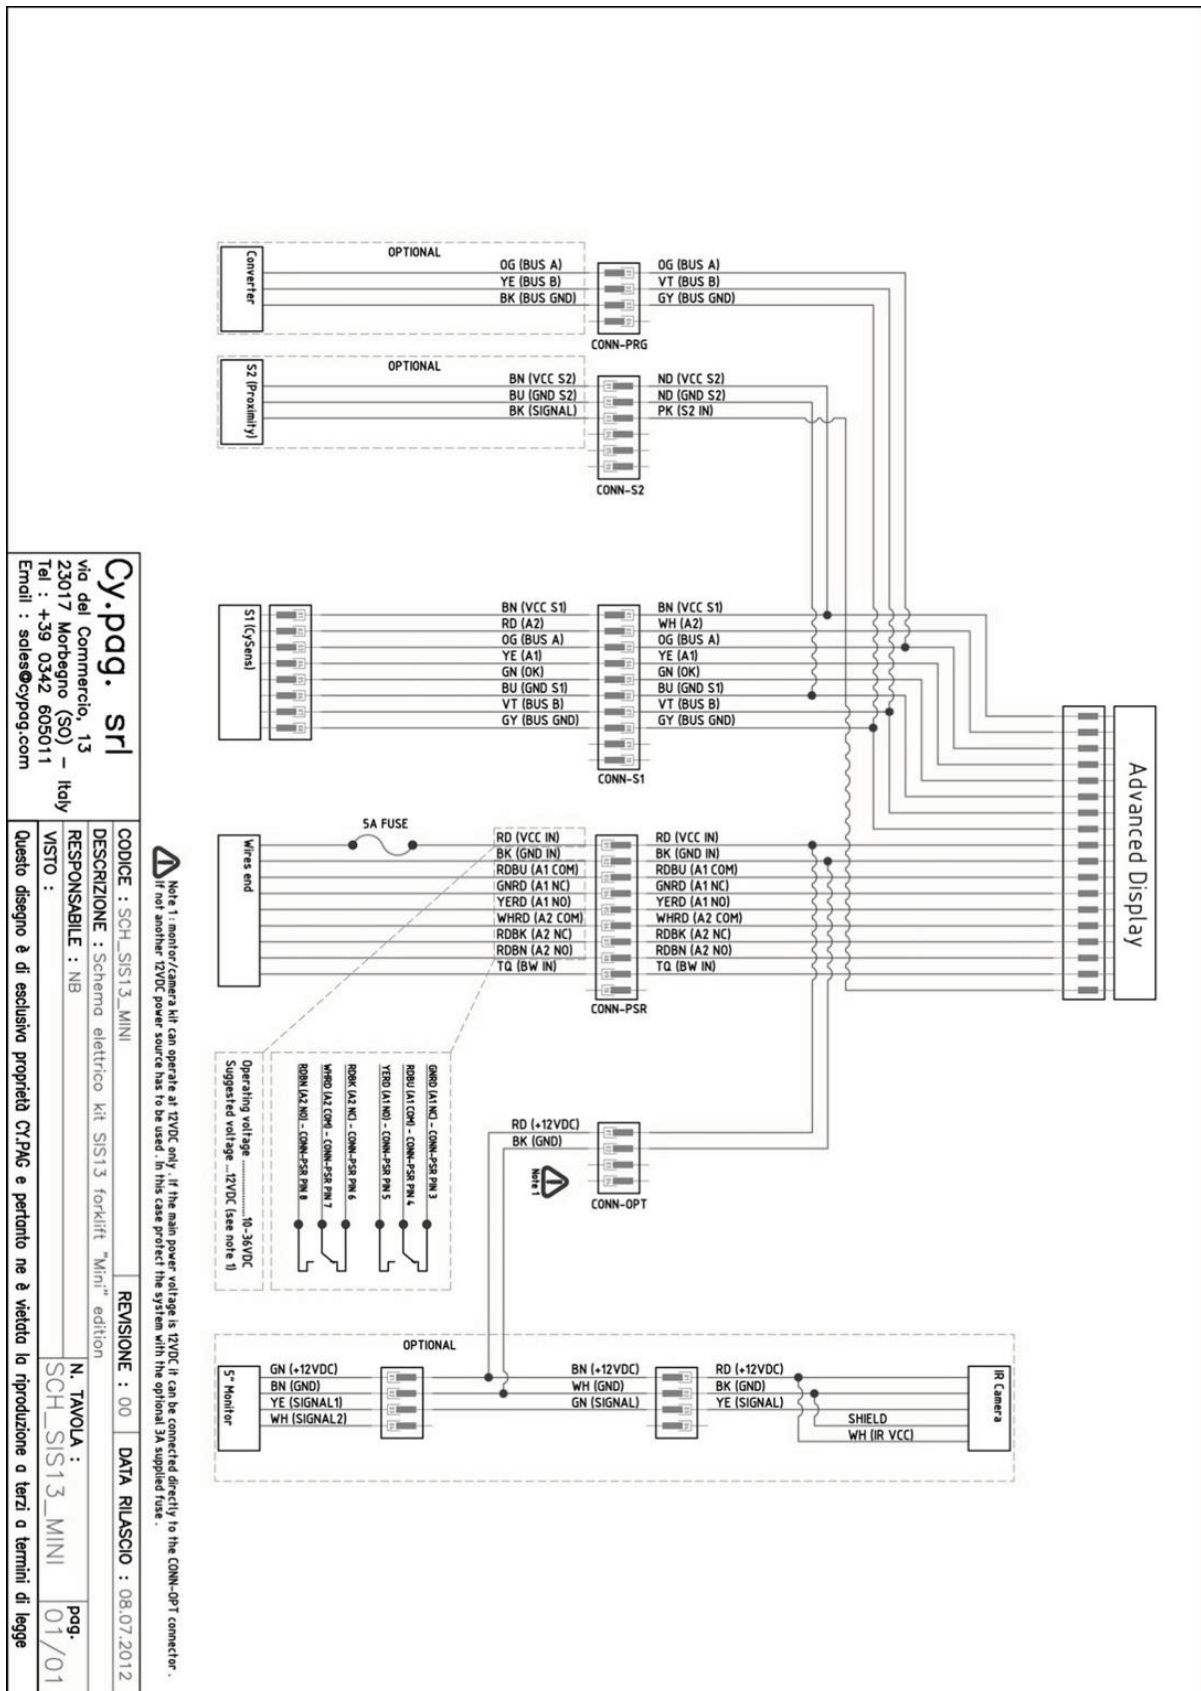

Figure 11: Overall wiring diagram of the anti-collision device
- **the general wiring diagram** (Figure 11);